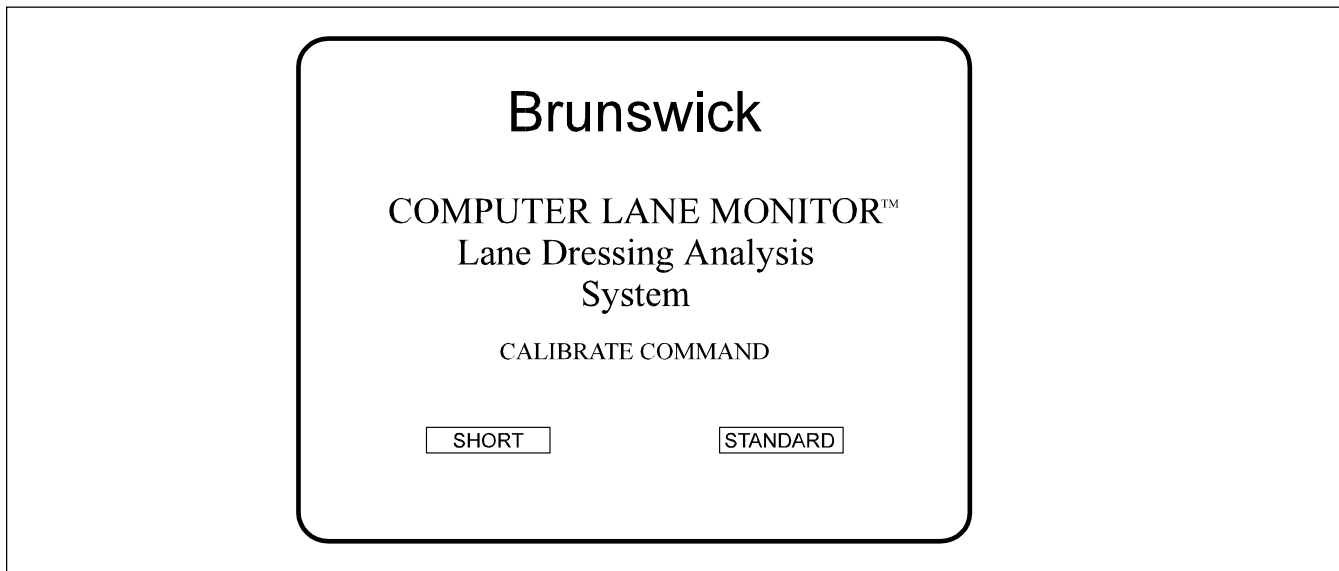

Figure 16 - Calibration Menu
1. Select the “Calibrate” option to set the Optical Reader calibration with the included calibration strips before reading a sample tape. There are two options in the calibration menu. See Figure 16.